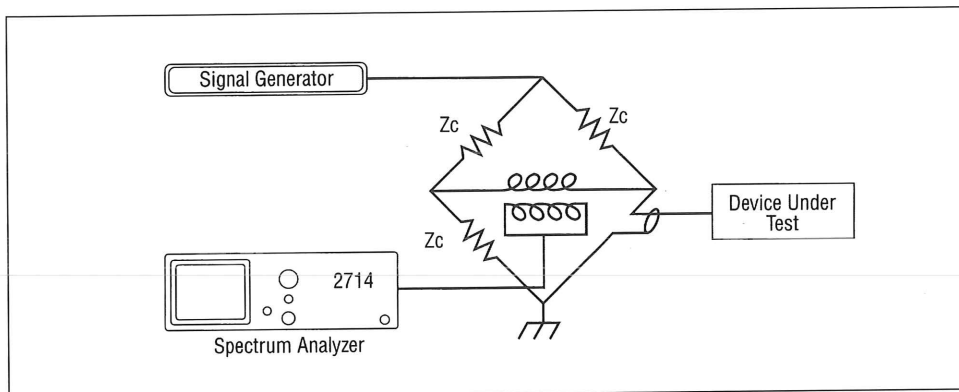

Figure 30. Return-loss measurement setup.
1. Connect the equipment as shown in Figure 30. If the generator does not have a 75Ω output impedance, use an appropriate minimum-loss pad or transformer between the generator and the return loss bridge. A 6 or 10 dB pad at the output of the generator can be used to further reduce the effects of an impedance mismatch